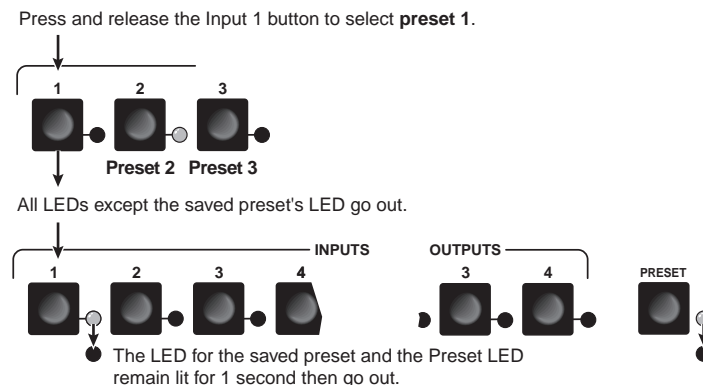

Figure 3-28 — Select the preset
2. Press and release the Input 1 button (figure 3-28).